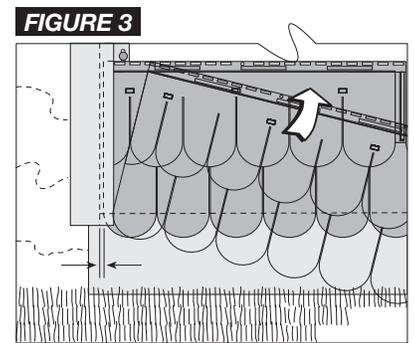

FIGURE 3
2) Starting on the left side of the wall, hook the bottom edge of the panel into the starter strip and slide the panel into the cornerpost or receiving channel (figure 3). Leave 1/4" space between the panel and the inside wall of the cornerpost for expansion.